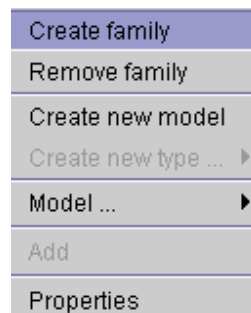

Figure 72 : Contextual menu – Create equipment family
- Use the mouse right button to display the following contextual menu (Figure 72) or the **Library** menu:
- ♦ Use the mouse right button to display the contextual menu (Figure 72) or use the **Library** menu.